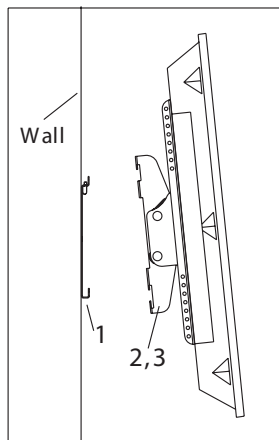

Fig 3a
Firstly lift the bracket mounted display over the wall mount. And then hook the brackets over the top of the wall mount. Rotate the display let the bottom of the brackets hook over the bottom of wall mount, as shown in Fig.3a. Then use the Locking bar(4) to prevent the display from being removed or accidentally knocked off of the wall plate. For additional security, install small padlock(5) through the provided lock holes, as shown in Fig.3b.